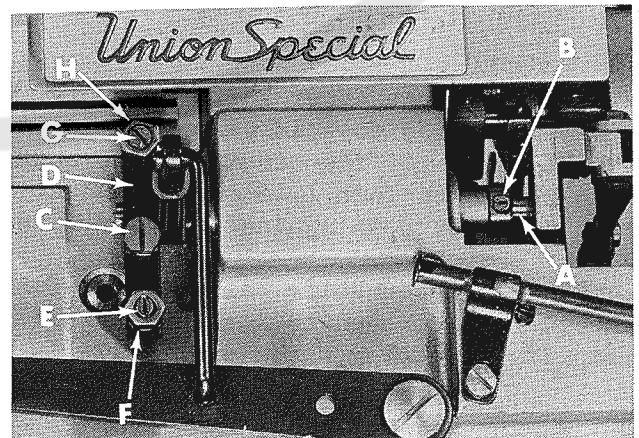

Fig. 19
Assemble the presser foot to presser arm. With needle in high position, swing presser arm into sewing position and set the presser foot to align needle holes (front and back) and flat on throat plate. The front edge of needle hole in presser foot must be aligned with front edge of needle hole in throat plate. It is also important that the bottom of the presser foot lies flat on the throat plate. If necessary, presser foot can be realigned with throat plate slots by shifting the foot lifter lever shaft (A, Fig. 19). To move the shaft, loosen screws in collar (B) and clamp screw (C) and then shift the foot lifter lever shaft to the left or right as required. Retighten collar screws and clamp screw.
The foot lifter lever arm (D, Fig. 19) and the collar (B) secure the shaft. Be sure the presser arm does not bind and rise when presser foot release lever is unlocked.
Adjust lifter lever stop screw (E, Fig. 19) so that presser foot can be raised no higher than upper looper or spreader will permit; then lock the nut (F). There should be from 1/16 to 1/8 inch (1.59 to 3.18 mm) free motion of foot lifter lever before the presser foot begins to rise. This adjustment should be made with screw (G) and locked with nut (H). Re-assemble the chip guard, fabric guard and cloth plate. To assemble chip guard, turn handwheel until upper knife assembly reaches its highest position.